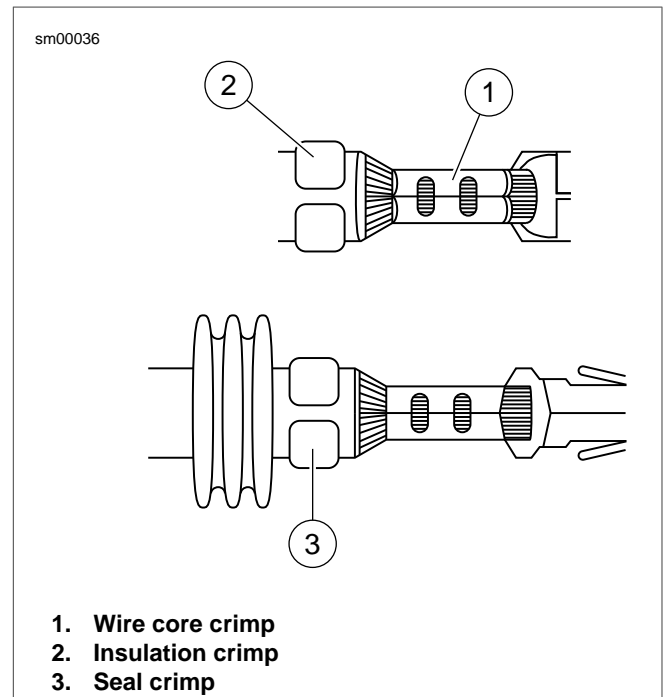

Figure A-18. Metri-Pack Connector: Inspect Core and Insulation/Seal Crimps
1. See Figure A-18. Identify the correct die for the insulation/seal crimp (2).
1. See Figure A-18. Inspect the wire core crimp (1). The tails should be folded in on the wire core without any distortion or excess wire strands.
2. Inspect the insulation (2) or seal (3) crimp. The tails of the terminal should be wrapped around the insulation without distortion.